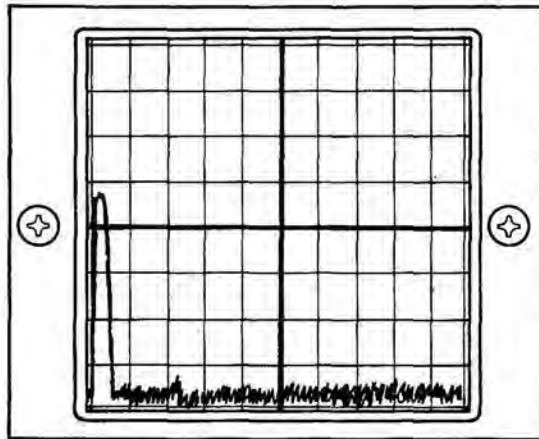

Figure 3-36 Wide Dispersion Spectrum Display 5 Graticule Divisions Left Of Major Vertical Axis
15. Set RF FREQUENCY MHz Thumbwheels (34) to "1300000" and verify Signal Generator spectrum displayed on CRT Display (36) is 5 graticule divisions to left of the major vertical axis (± 4 minor graticule divisions). (See Figure 3-36.)